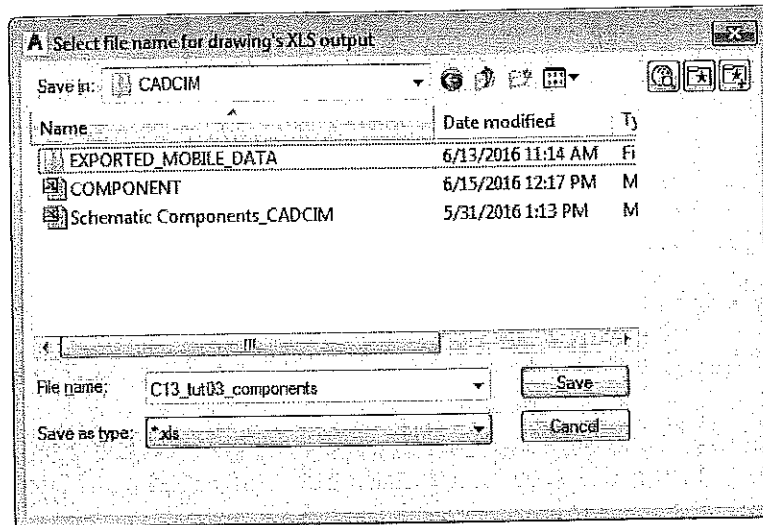

Figure 13-47 The Select file name for drawing's XLS output dialog box
4. In this dialog box, enter **C13_tut03_components** in the **File name** text box and select **C:\Users\User Name\Documents\AcadE 2018\AeData\Proj\CADCIM** from the **Save in** drop-down list, refer to Figure 13-47. Next, choose the **Save** button; an Excel file with the name *c13_tut03_components* is created at the specified location.